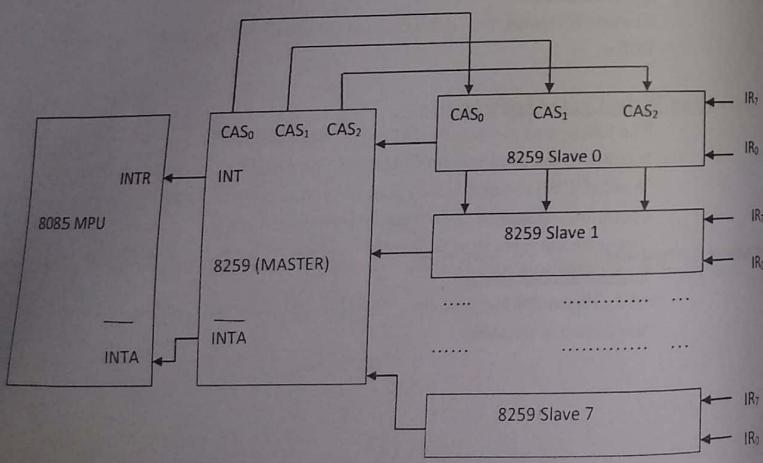

Fig. 2 – Cascading the 8259A
- The fig. 2 above shows how 8259s chips are connected in cascaded format in master-slave pattern, which makes it possible to accept upto 64 interrupt lines from different devices.